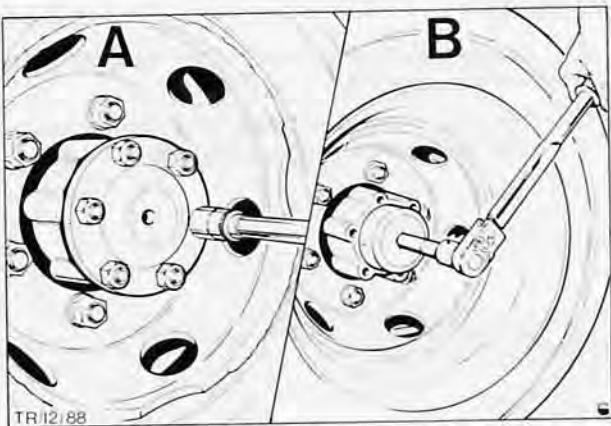

Fig. 16. A – Unscrew axle shaft nuts
1. Slacken wheel nuts, remove left and right hand axle shafts, Fig. 16 (6 nuts or 5 bolts in each case).